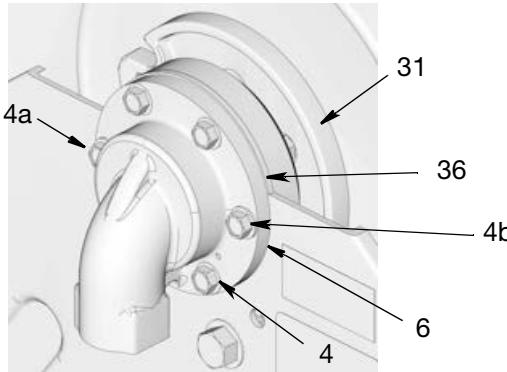

FIG. 21
- Medium Pressure Models only: Align the shim (36) between the inlet (6) and the bearing retainer (35) (FIG. 21).
- Install the side 2 bolts (4a and 4b), as shown in FIG. 21, through the frame and the inlet (6). Tighten the bolts just enough to hold everything in place.
- Install the remaining four bolts (4). Hand tighten and then torque all of the bolts to 25 to 35 ft. lbs (33.9 to 47.45 N•m).